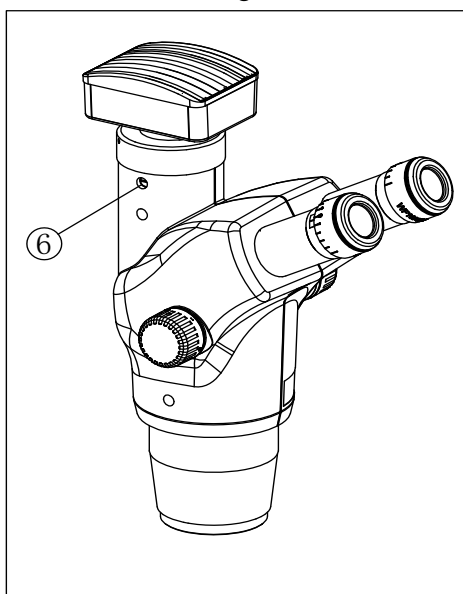

Fig 8
- operating: take the lock-screw down by screwdriver. Driver up the tray ⑤ to a higher lock-screw hole. Tighten it.
3.1.3 Three optical path parfocality adjustment(fig.8)